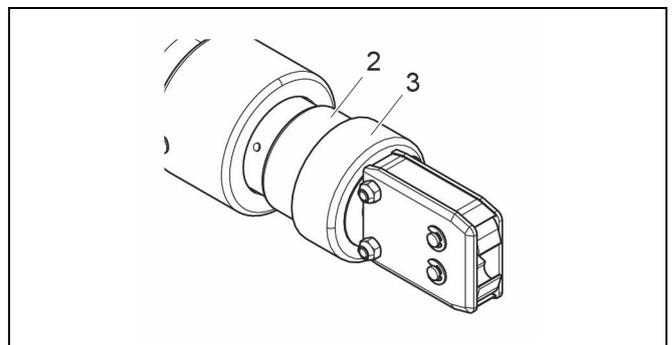

Fig. 13: Rotate pincer head
2. Grip pincer head in area 2 (Fig. 13/2) and rotate into the desired position.
- ▶ During operation, ensure that the union nut is tightened at all times (Fig. 13/3). Otherwise the pincer head could come loose. This can lead to defective closures.